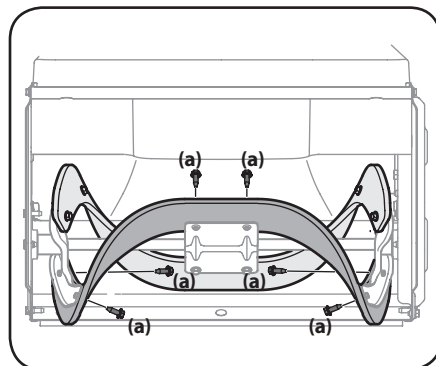

Figure 4-7
- Remove the existing rubber paddles by un-threading the hex washer screws (a) which secure them to the auger. See Figure 4-7.